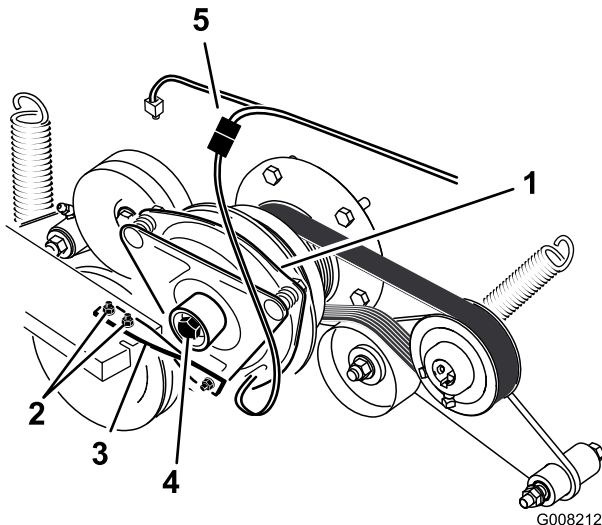

Figure 55
6. Unplug the electric connection for the clutch (Figure 55).
7. Remove the two bolts holding the rubber clutch strap to the mower frame (Figure 55).
8. Remove the center bolt holding the clutch to the engine shaft and remove the clutch and key (Figure 55).
15. While holding the crank shaft at the back of the machine, install the center bolt and torque it to 50 ft-lbs (68 N-m) (Figure 55).
16. Install the rubber clutch strap to the mower frame with the two previously removed bolts and nuts (Figure 55).
18. Plug in the electric connection for the clutch (Figure 55).